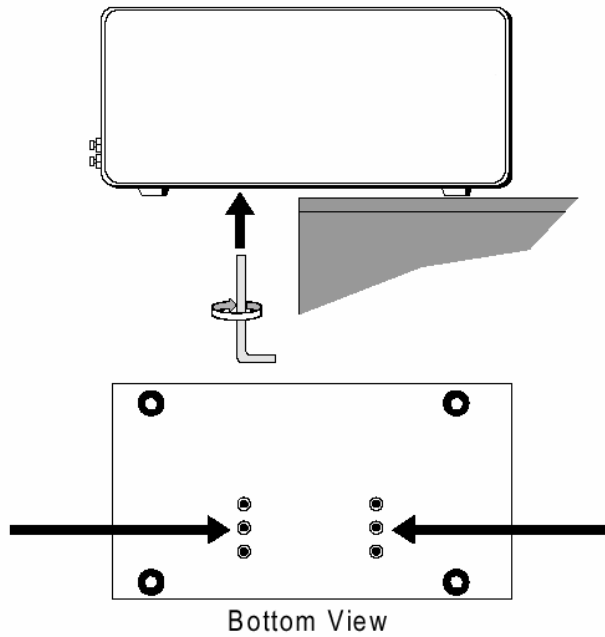

Figure 3 Loosening the Shipping Bolts
1. Refer to Figure 3. Gently place the right side of the detector on the end of a bench, while supporting it to prevent it from falling.